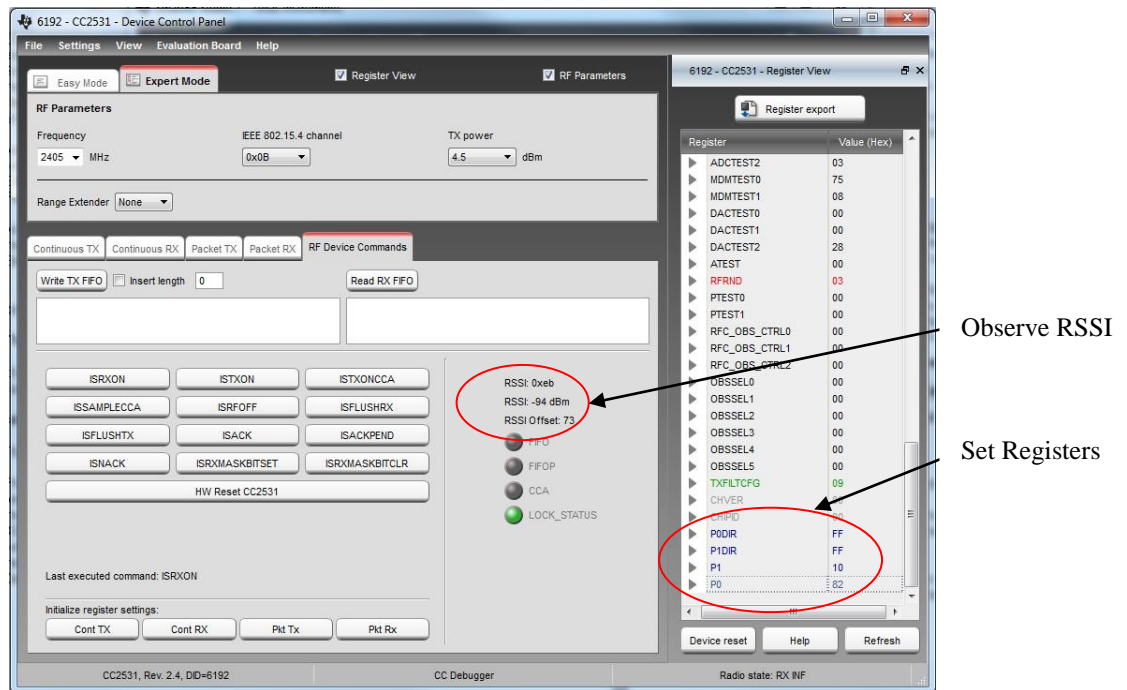

Figure 2. Device Control Panel in Receive Mode
- j. Click “ISR_XON” to start receiving. See Figure 2 for image of a